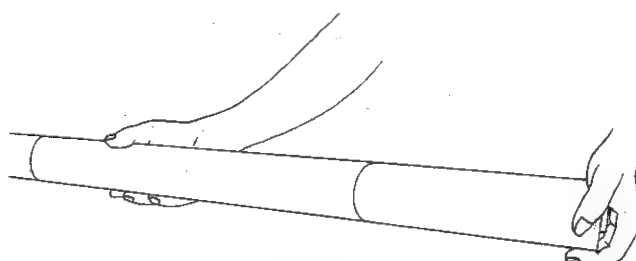

Figure 28
- (13) On the left side, follow the same procedures as described in (10) and (11) to draw out the bobbin.
(14) After taking out the bobbin, retain it with a rubber band. (Figure 28)